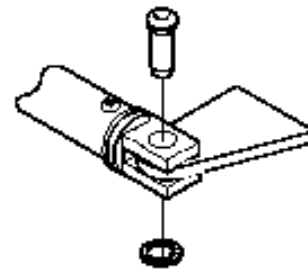

Figure 7
3. Fit the front bracket onto the actuator before welding it to the gate (fig 7).